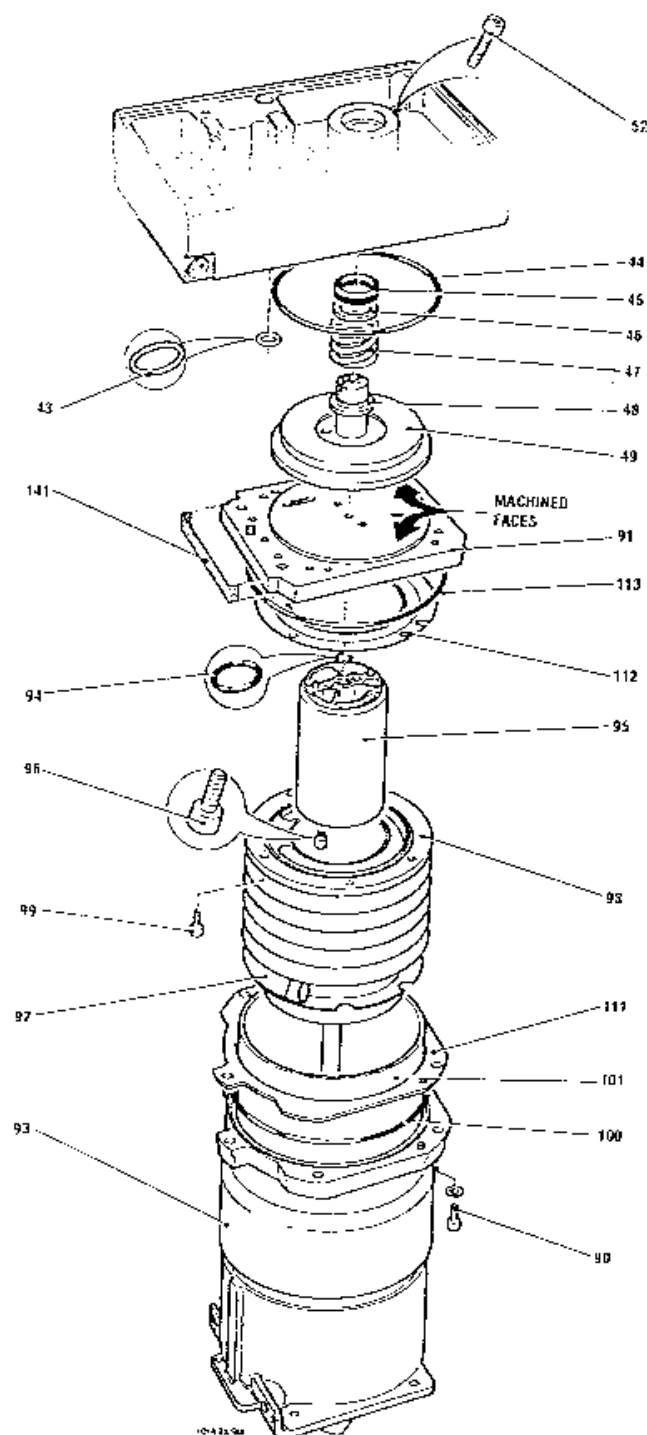
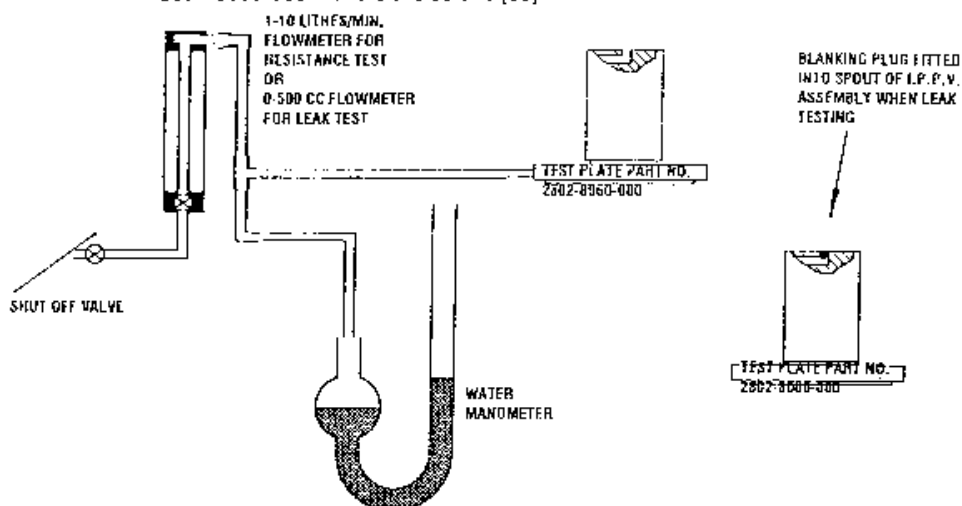

Fig. 3.11 Sump And Wick Disassembly
Fig. 3.16 Resistance And Leak Tests Of I.P.P.V. Assembly
3.5.2 Sump, Sump Cover And Interlock Block (Fig. 3.11)
2. Referring to Fig 3.11, remove the five screws (90) and washers and lift off the sump assembly from the sump cover.
3. Remove and dispose of the 'O' ring (100)
4. Carefully slide the sump sleeve (111) from the outer wick (101) and remove and dispose of the 'O' ring (113)
5. Remove and dispose of the outer wick (101) and the spiral wick (92)
6. Remove the five screws (99) and remove the spinning assembly (98) and the copper gasket (112).
7. Remove the two screws (96) and remove the plastic I P P V assembly (95). Remove and dispose of the 'O' ring (94).
8. Turn the vaporizer upright, remove the four screws (52) which secure the interlock block to the sump cover.
1. Set up the test equipment with a 1 to 10 litres/minute flowmeter as illustrated in Fig. 3.16 ensuring that the manometer reads zero with an air flow of 6 litres/minute prior to fitting the I.P.P.V. assembly. Fit a new seal (item 94 on Fig. 3.11) to the I.P.P.V. assembly as shown on Fig. 3.11 and fit the assembly to the test plate Part No. 2802-8060-000 with the two screws (96)
1. Place a blanking plug in the spout of the I.P.P.V. assembly and connect a 0-500 cc/minute flowmeter Part No. 2802-8056-000 in place of the 10 litres/minute flowmeter, as shown in Fig.3.16